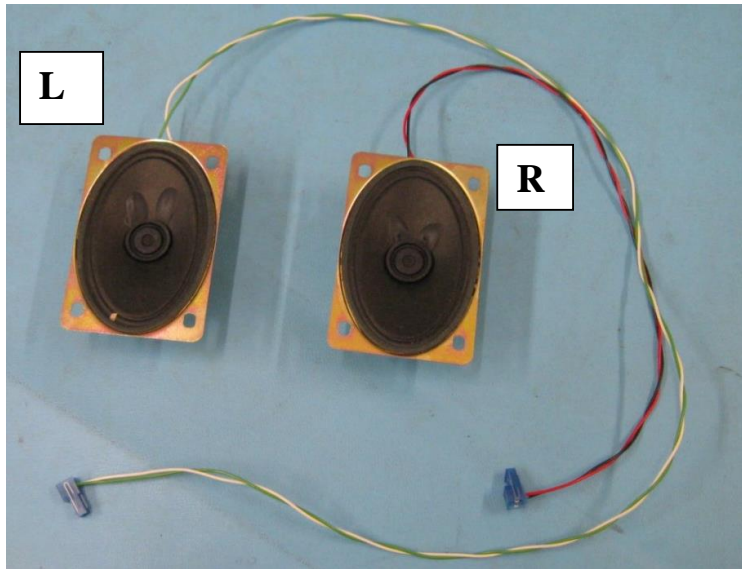

Figure 8
- 6.4. Twist the Red and Black Wires together, see Figure 8.
- 6.10. Twist the White and Green Wires together, see Figure 8.